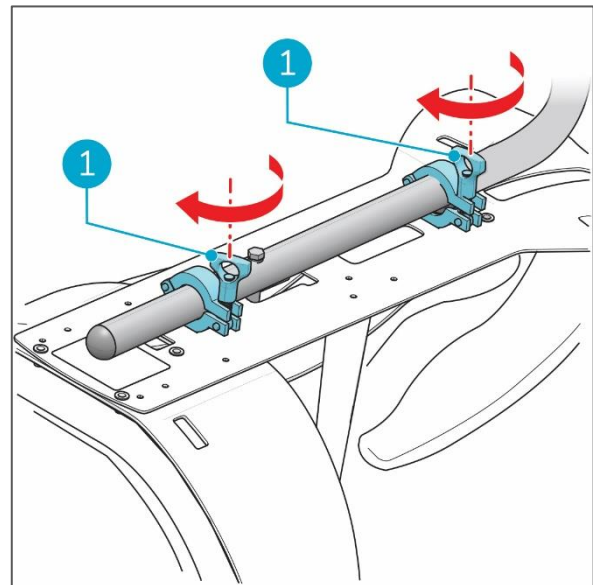

Figure 17
5. Close the mounting clamps and tighten the fasteners (Figure 17, pos. 1).